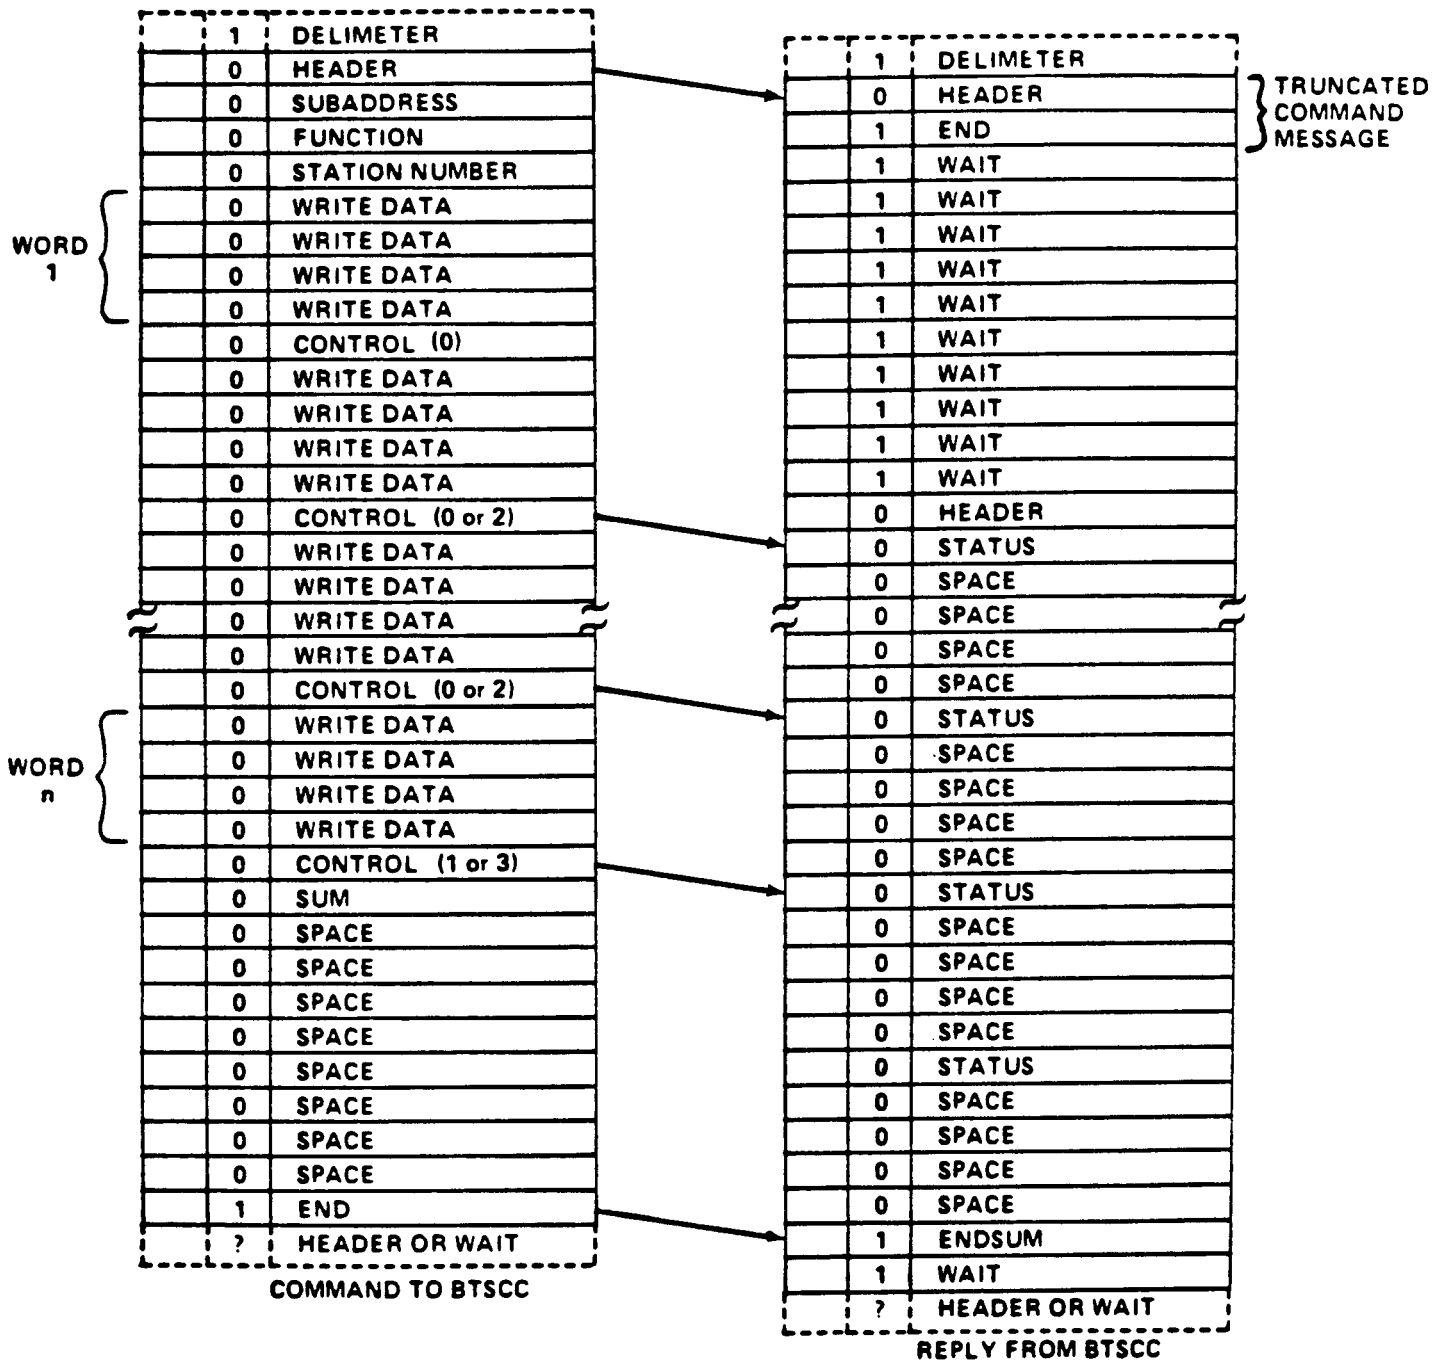

Figure 1: Command/Reply Sequence for Block Write Operation
Figures 1 and 2 show the bytes associated with the Command/Reply sequence for a block mode operation (single-NAF or list-mode). Note that it is a logical extension of the L-2 single-transaction sequence.
Refer to Figure 1. For this sequence, the BTSCC receives an N(30)·F(12)·A(2) command, indicating a LIST2 selection. The remaining sequence is then:
- A. After the Station Number (N) byte is received and a "LIST2" sequence identified, the BTSCC sets signal line LIST2. This line is part of the "private bus" cable between the units. The RAM address pointer in the LSM is set to word 1024, the start of the OUTPUT NAF LIST2.
- D. A CONTROL (0) byte is received, indicating valid write data in the write buffer and the start of a Dataway cycle.